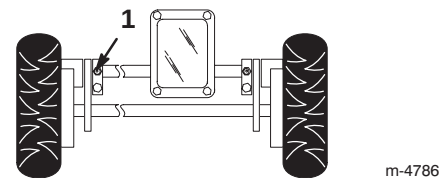

Figure 24
1. Wipe the grease fittings with a clean rag (Fig. 24).